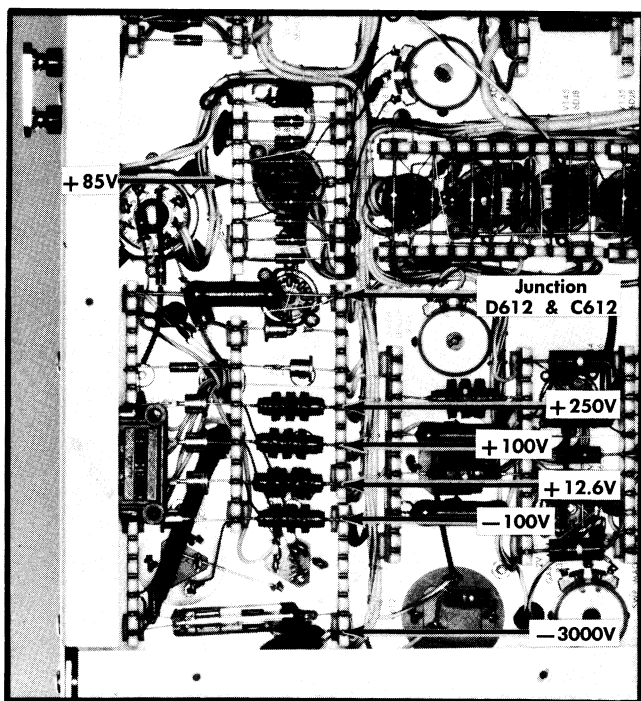

Fig. 6-1. Location of Power Supply test points.
1. -100 ADJ. With the dc voltmeter measure the output voltage of the -100-, +12.6-, +100-, +250-, and -3000-volt supplies at the points indicated in Fig. 6-1. Set the -100 ADJ. control so that the -100-volt supply is within 2% and the other supplies within 5% of their rated values.